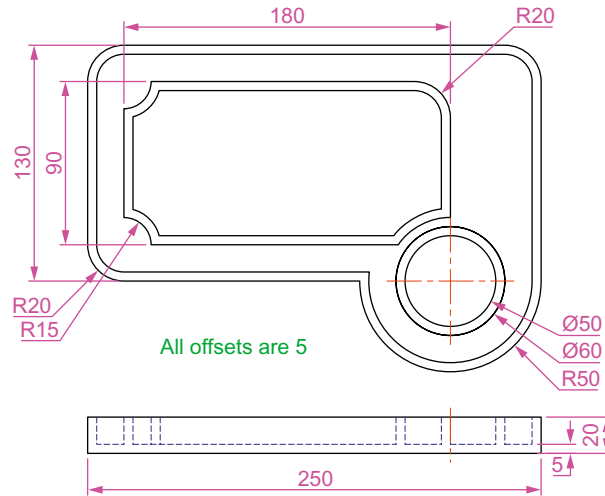

Fig. 18.9 Sixth example – Copy Faces tool – details of the 3D solid model
The results are shown in Fig. 18.9.
1. Construct a 3D model to the sizes as given in Fig. 18.9.